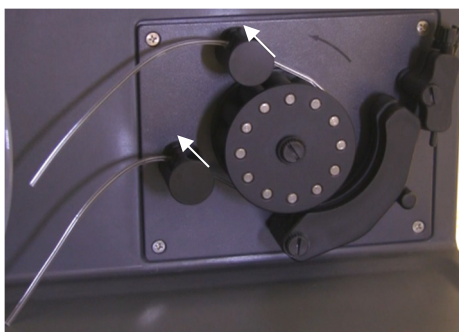

Figure 11. Peristaltic pump with pressure bars pushed up and pressure bar freely down, allowing tubing to be loosened
- a Push up the pressure bar screws. This releases them from the pressure bar (refer to Figure 11).